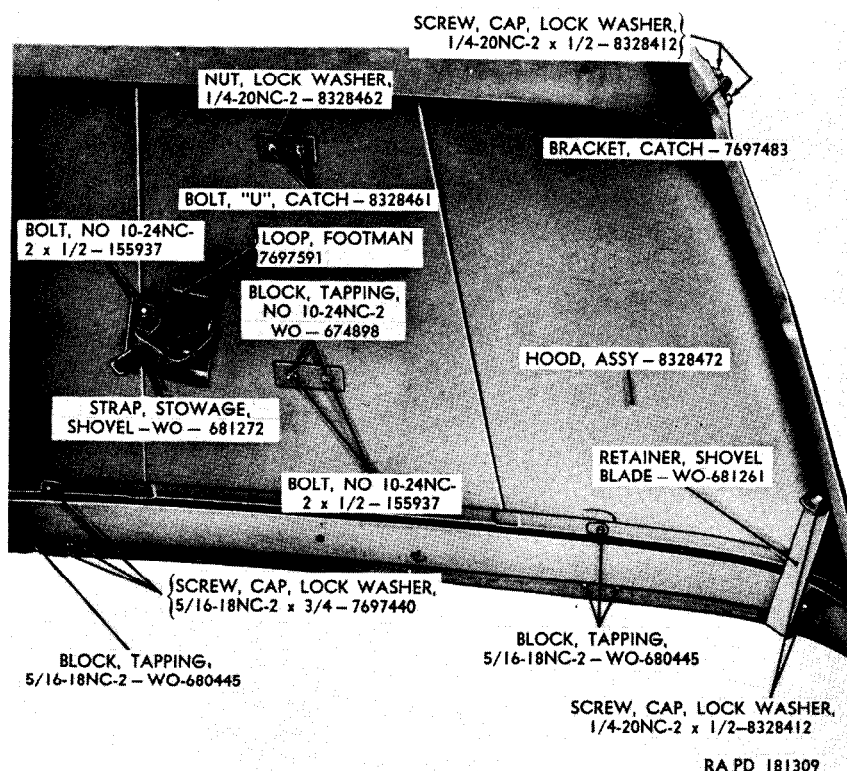

Figure 173. Underside of hood and related parts.
a. *Hood* (fig. 173). The hood is a formed and reinforced metal panel which covers the engine compartment. It is locked to the fenders during vehicle operation by spring-loaded hood catches mounted on the tops of the fenders. Two quick disconnect type hood hinges on hood and hood hinge pins on body cowl are provided for securing hood to vehicle. A shovel blade retainer and stowage shovel
(fig. 173)